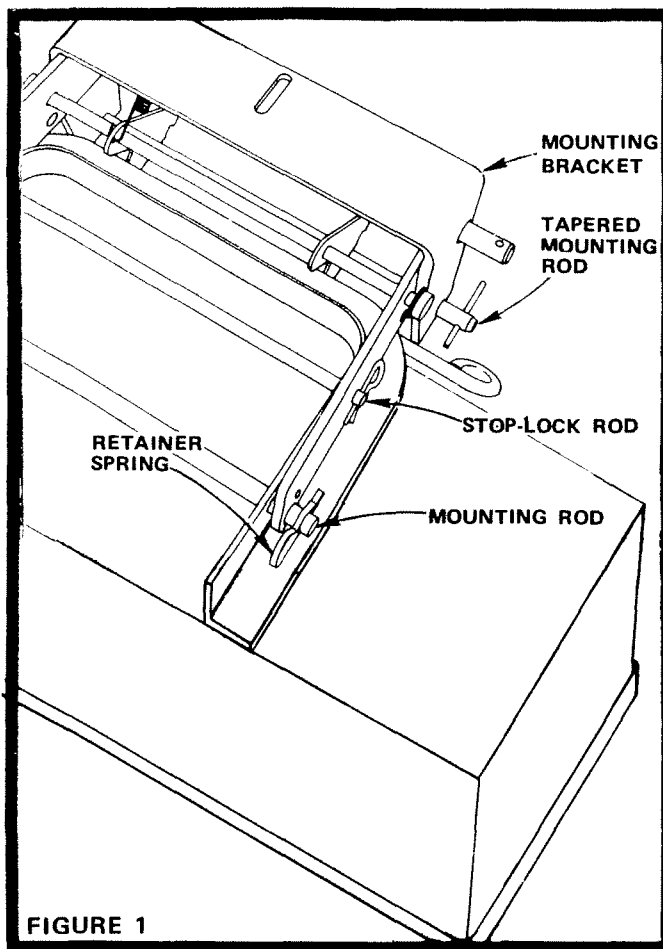

FIGURE 1
2. Position Tote Box upside down on floor (Fig. 1).
4. Rotate Mounting Bracket 180° to position shown in Fig. 1. Insert Mounting Rod in same location removed in step 3 and secure with Retainer Springs.
6. Remove Retainer Springs from Tapered Mounting Rod (Fig. 1) and remove Rod.
Reposition the Stop-Lock Rod in the holding position shown (Fig. 1) in Mounting Bracket. Secure with Retainer Springs.